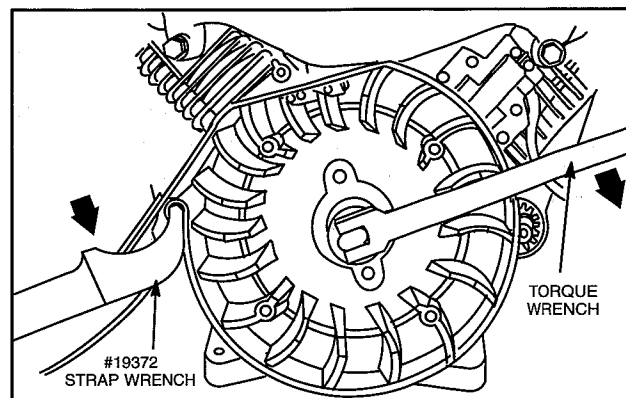

Fig. 7 – Torque Flywheel Nut
2. Place flywheel strap wrench, Tool #19433 around outer rim of flywheel, Fig. 7.